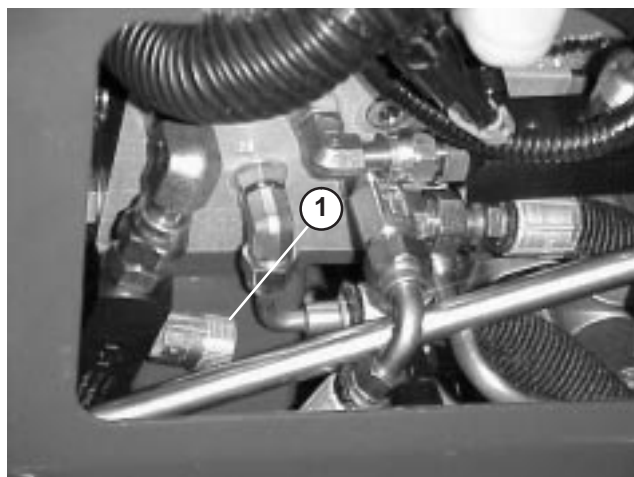

Figure 62
1. Locate valve on right side of lift block (Fig. 62).